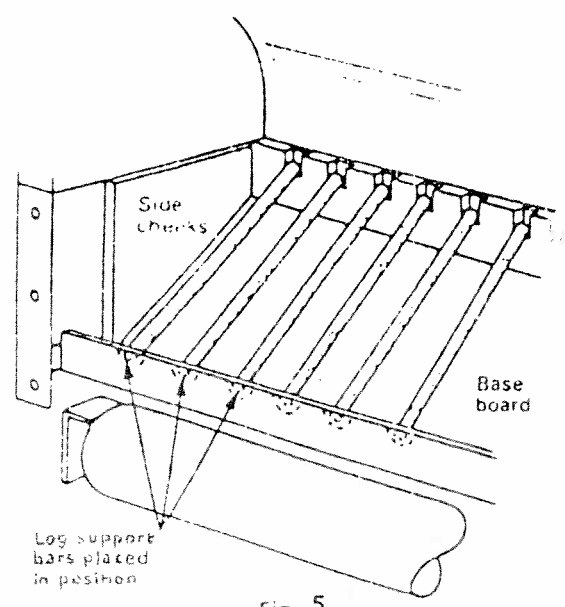

Fig. 5
- (1) The back bricks and base board are already assembled in position.
- (2) The retaining tape should be removed from the decorative flame burner tips.
- (3) Remove the right-hand and left-hand side cheeks from the pack (located below the support bars) and place in position (Fig. 5). Note correct handing.
- (4) Remove the log support bars from their packing and place into position in the cut-out slots in the fire bed (Fig. 5). CARE SHOULD BE TAKEN NOT TO DROP OR FORCE THESE BARS INTO PLACE.